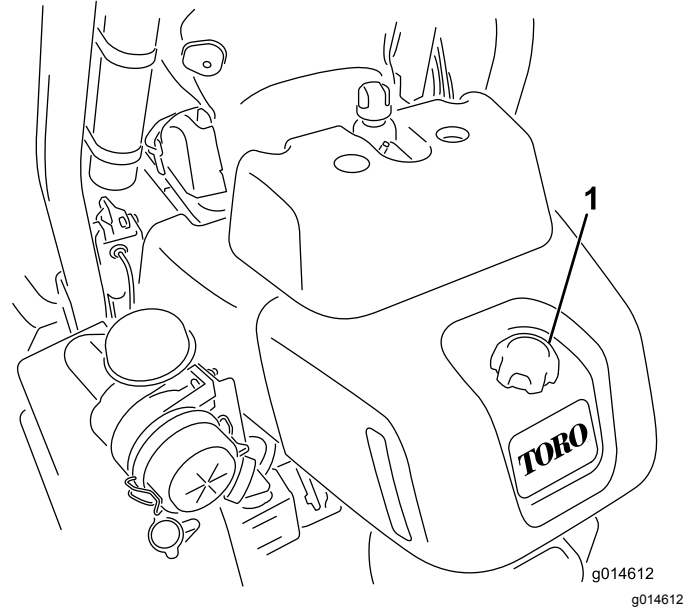

Figure 26
1. Clean around the fuel tank cap (Figure 26).